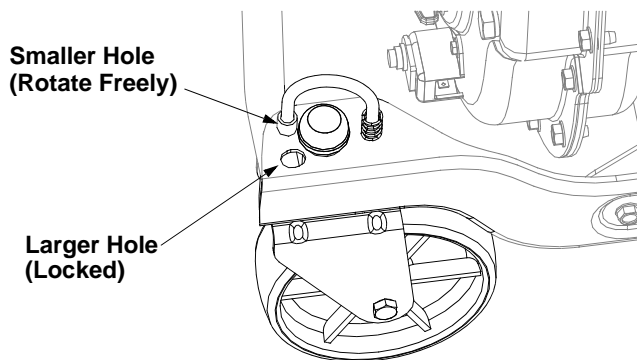

Figure 8
- Lift and place pins in the larger holes for locked or straight ahead operation. See Figure 8.